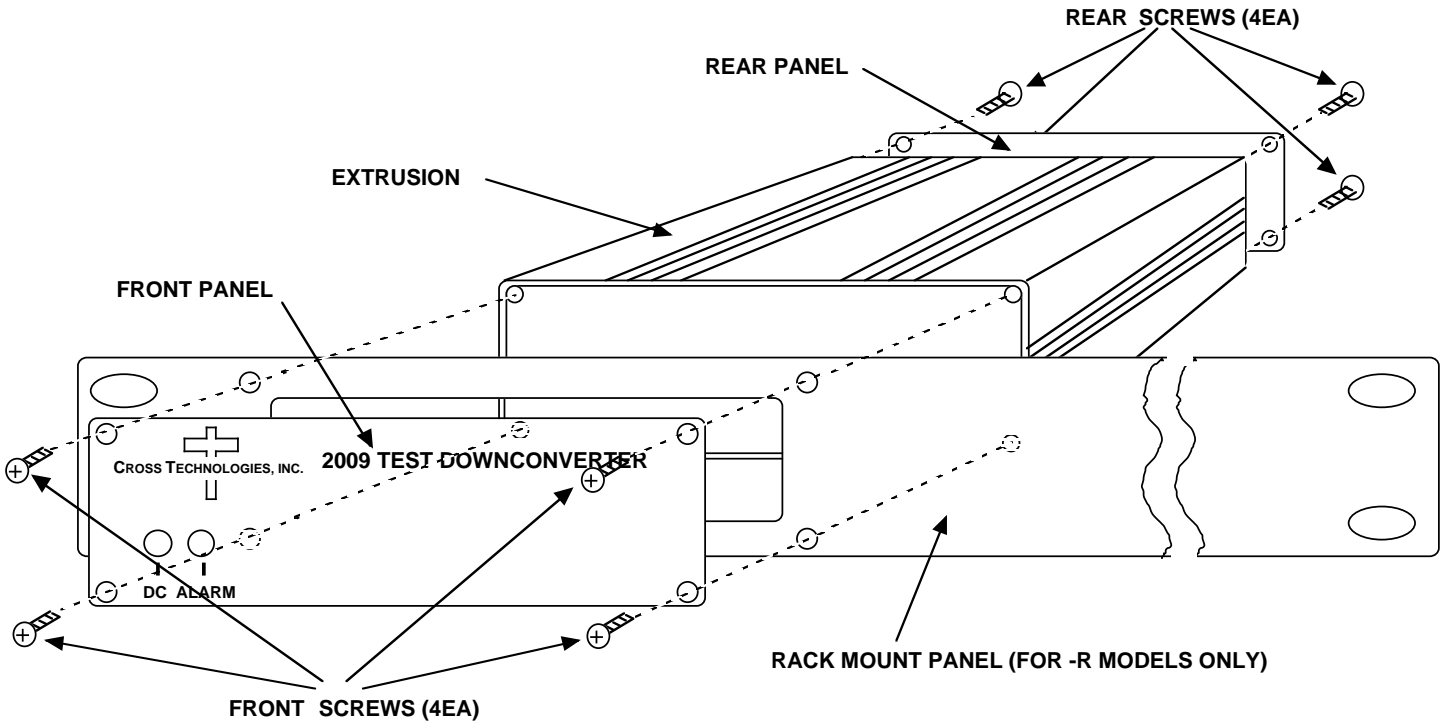

FIGURE 2.1 Model 2009-2425-1750 Assembly (-R option shown)
The 2009-59 is packaged in an aluminum extrusion. The **-R option** is mounted on a 1 3/4" X 19" panel that can be mounted to a rack using the 4 holes at the ends (See Figure 2.1).
2. Remove four (4) **rear panel screws** (see Figure 2.1).
5. Install four (4) **rear panel screws**.